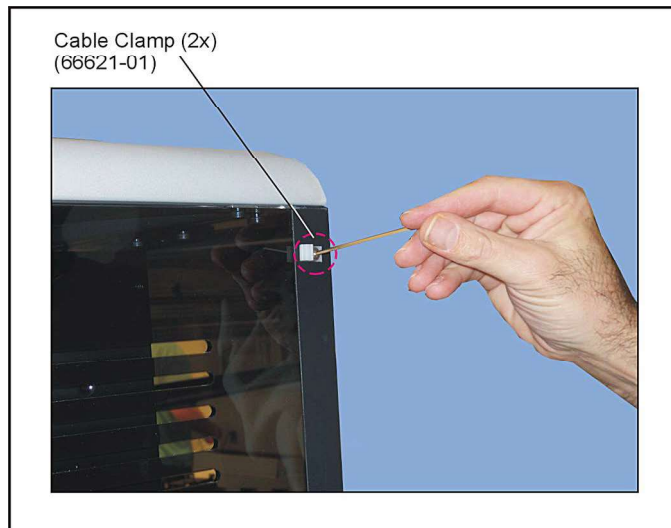
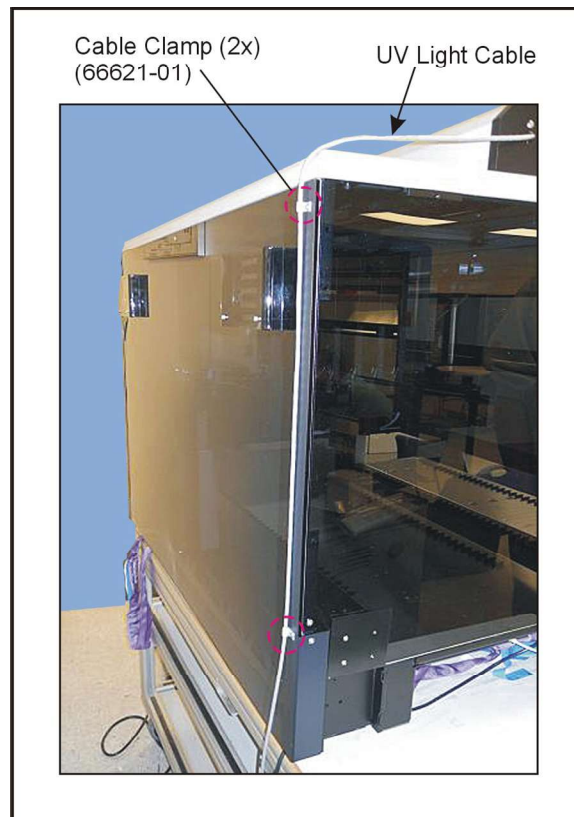

Figure 2-19: Installing two cable clamps (view is from the rear of the instrument)
Figure 2-29: Routing the UV light cable down the rear left edge of the instrument
9. Install the two cable clamps (66621-01) along with the left side corner bracket (Figure 2-19 and Figure 2-29).
21. Route the UV light cable down the back left side of the instrument securing it with two cable clamps (66621-01). See Figure 2-29.